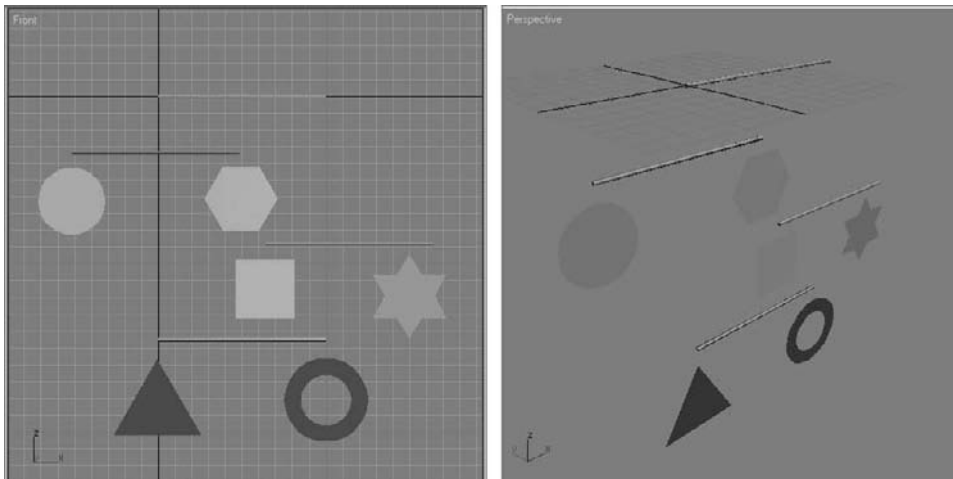

Figure 2.31
10. Create four more shapes and place them to line up under the ends of the remaining bars as shown in Figure 2.31. You will need to create and extrude the remaining four shapes all at about the same size (radius of 20). The following table shows you the remaining shapes and what Object Type button to use to create them and what their names will be in the scene. To avoid any confusion when we begin to set up the hierarchies for animation, keep the naming as shown here: